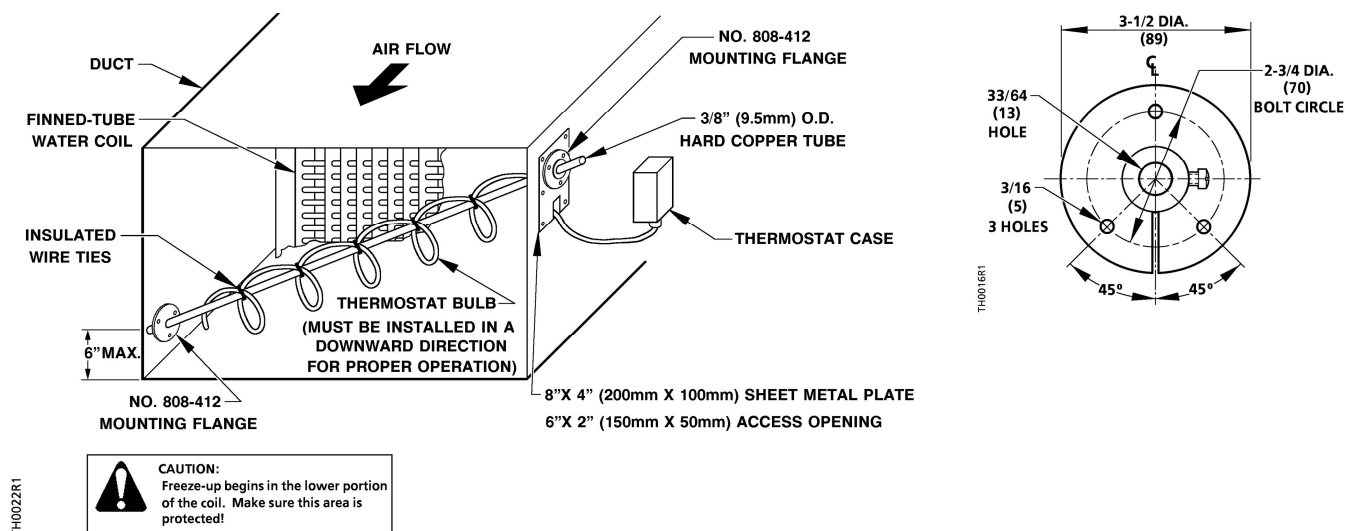

Figure 2. Bulb Mounting for Limited Access Ducts with 808-412 Mounting Flange.
Dimensions	See Figures 2 and 5
Limited Access Ducts (Figure 2)
4. Cut a length of copper tubing to fit diagonally across the duct. Stretch out the bulb and wrap it around the tubing. See Figure 2.